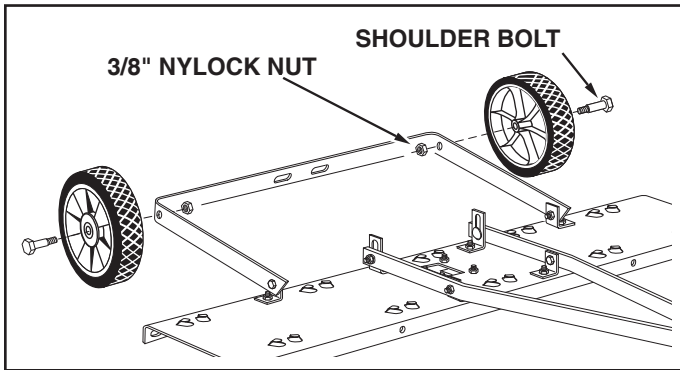

FIGURE 6
12. Assemble the wheels to the axle bracket using two shoulder bolts and two 3/8" nylock nuts. **Tighten**. See figure 6.